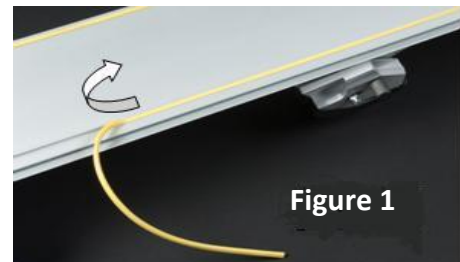

Figure 1
4. Locate the yellow rubber strip in the slot that is closest to the cutting edge on the unit. **(Figure 1)**